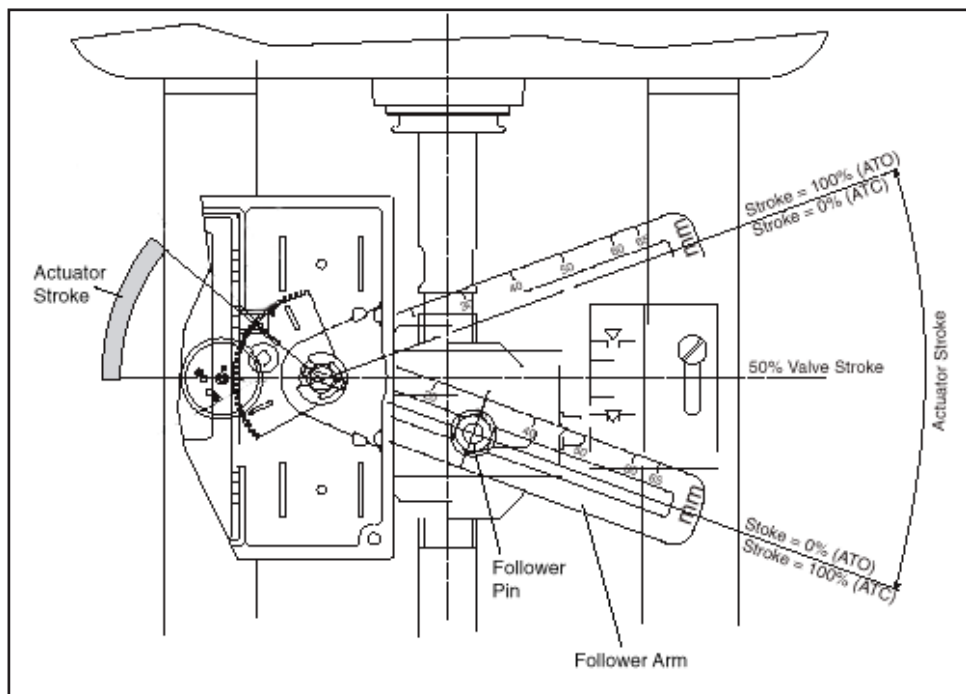

Figure 4. Basic Adjustment for a Linear Pneumatic Actuator
Follower pin adjustment (Figure 4)
3. Loosen the follower pin and shift it along the follower arm until the control marking on the feedback gear (Figure 4) is horizontal (points to the center of the feedback potentiometer). Fasten the follower pin in this position.